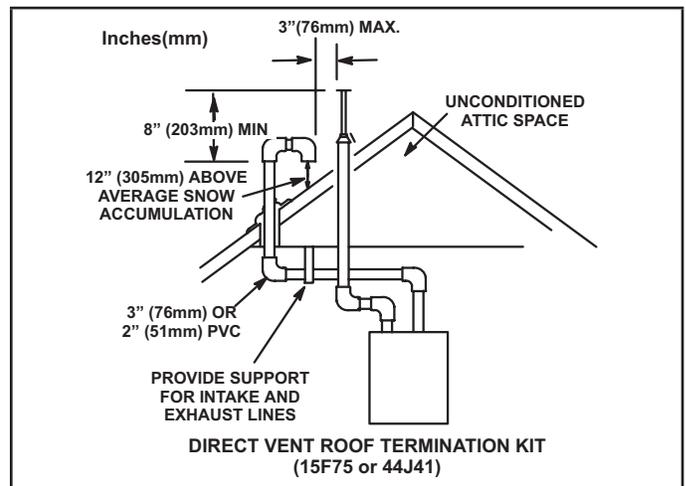

FIGURE 34
Intake and exhaust pipes may be routed either horizontally through an outside wall or vertically through the roof. In attic or closet installations, vertical termination through the roof is preferred. FIGURE 34 through FIGURE 42 shows typical terminations.
- 3 - On roof terminations, the intake piping should terminate straight down using two 90° elbows (See FIGURE 34).